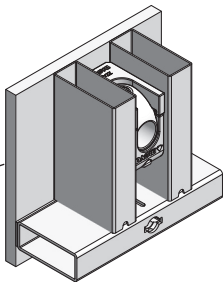

Fig. 8.2
- Combination tie hole with rotating sphere for single- and two-sided tying (Fig. 8.2).